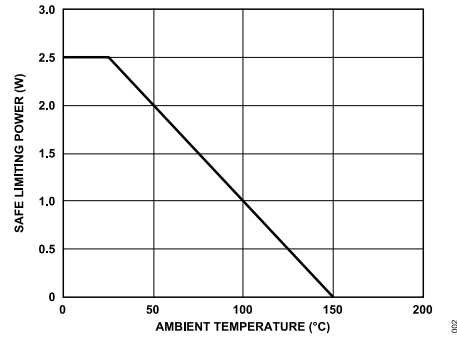

Figure 2. Thermal Derating Curve, Dependence of Safety Limiting Values on Case Temperature, per DIN EN IEC 60747-17 (VDE 0884-17)
- ⁴ See Figure 2 for the maximum rated current values for various temperatures.